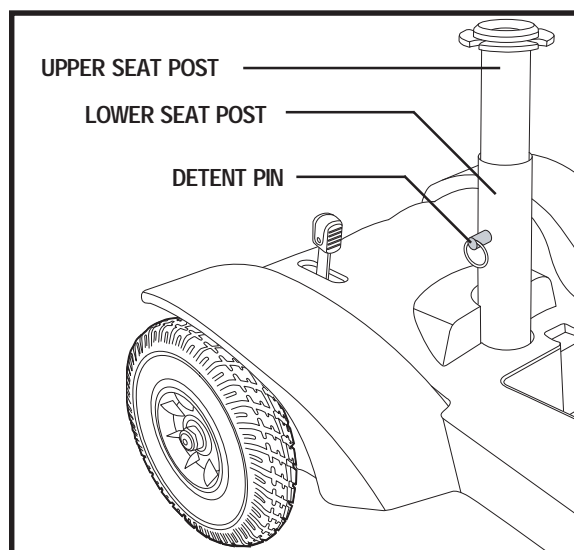

Figure 7. Seat Height Adjustment
2. Use the attached ring to pull and remove the detent pin from the lower seat post. See figure 7.